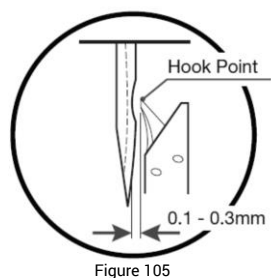

Figure 105
- If the space between the needle and the hook point is out of range, as shown in Figure 105, the thread will not catch, causing thread breaks, and if too close, causing broken needles.